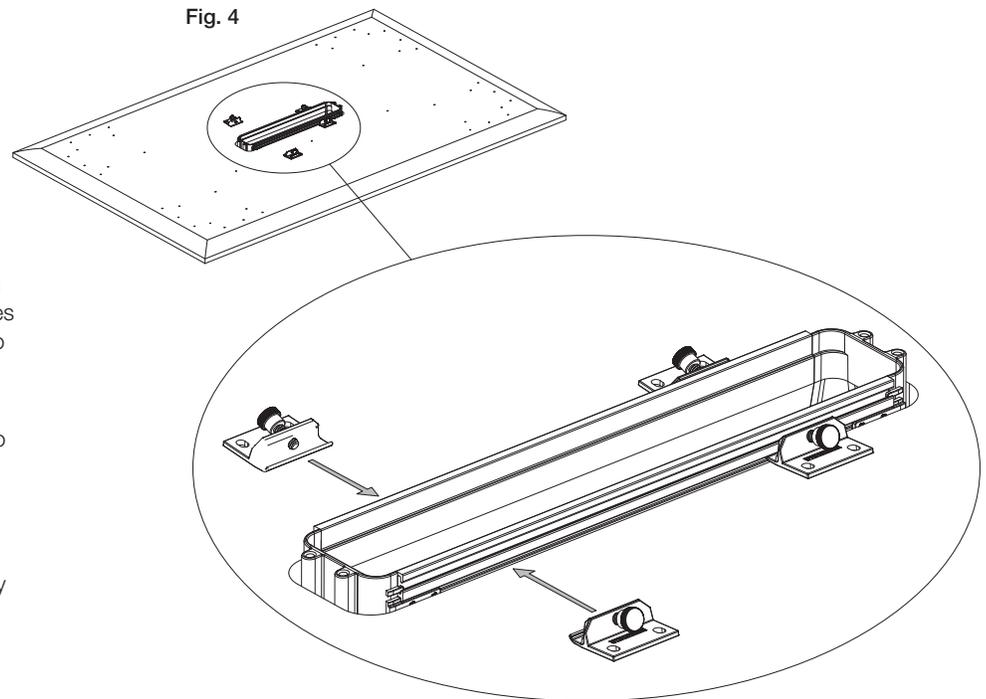
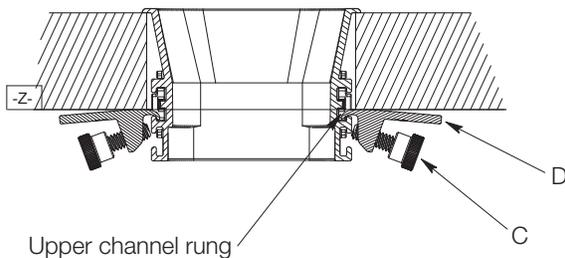

Fig. 5A
Fig. 5B
(see Fig. 4, Fig. 5A and Fig. 5B)
- 4.1 Slide clips into the side channels in sleeve (B) that line up with the table bottom surface as shown in Fig. 5A and Fig. 5B, clips can accommodate 1-1/4" and 1-1/2" top thicknesses. Place clip in either top or bottom channel rung as lines up with your top thickness. Make sure to space out clips evenly and far enough from endcap tabs to avoid interference.